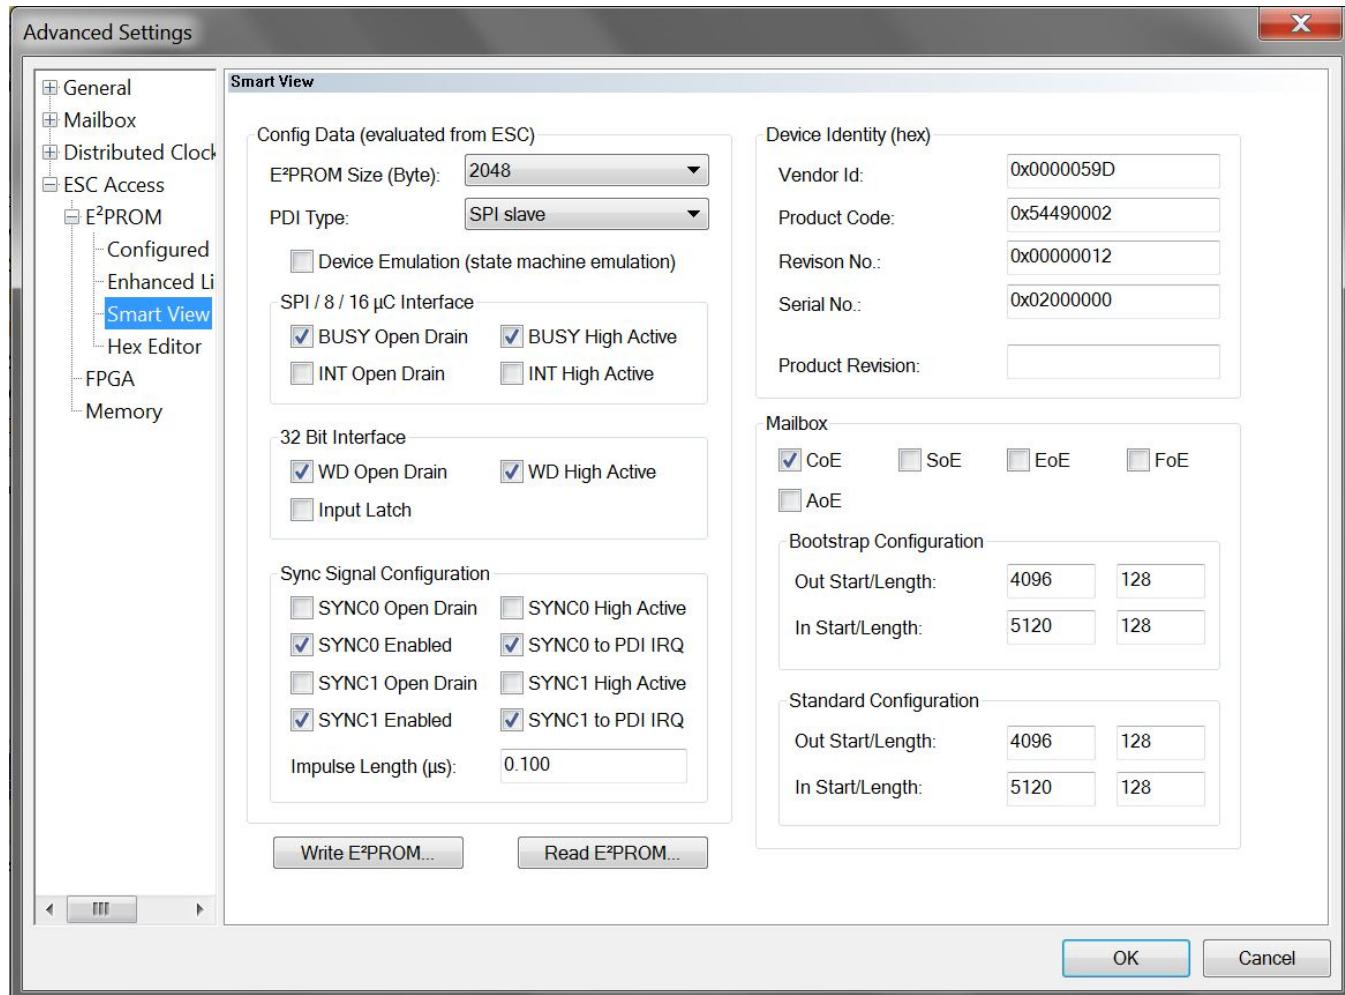

Figure 29. TwinCat “Smart View” Slave Properties Window Showing Programmed EEPROM
4. After TwinCAT writes the EEPROM (in this case for the SPI), the following “Smart View” window showing a valid configuration with PDI Type = “SPI slave” should appear (see Figure 29).